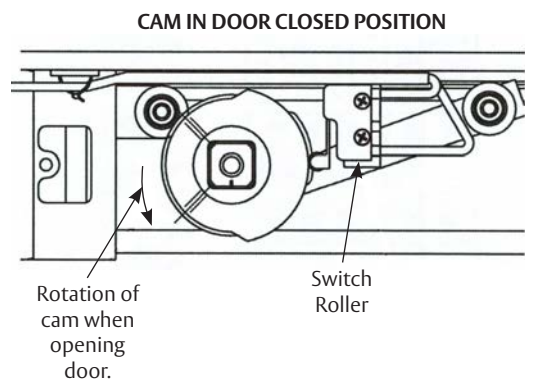

Figure 13
4. Pull door open to desired hold open position. When switch roller travels down to bottom of incline, door closer will function as a standard multi-point holder. (Figure 13) Depending on door size and closer fall back, cam may need to be adjusted so that switch roller is positioned further from base of incline. When cam is positioned properly for desired door operation, tighten both set screws firmly.